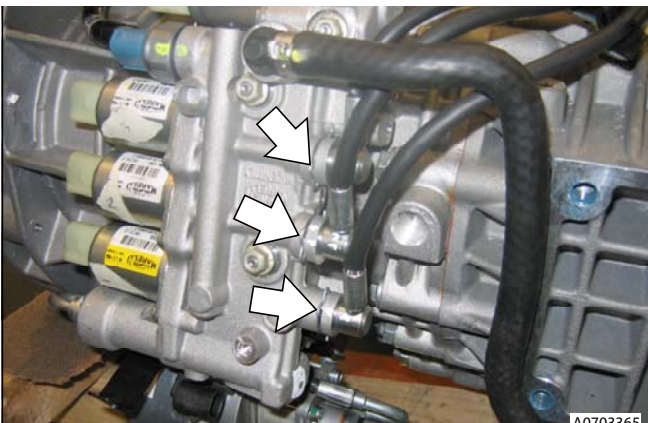

Figure 7
29. Remove and discard clips (x3) securing hoses into valve block and disconnect hoses (see Figure 7).